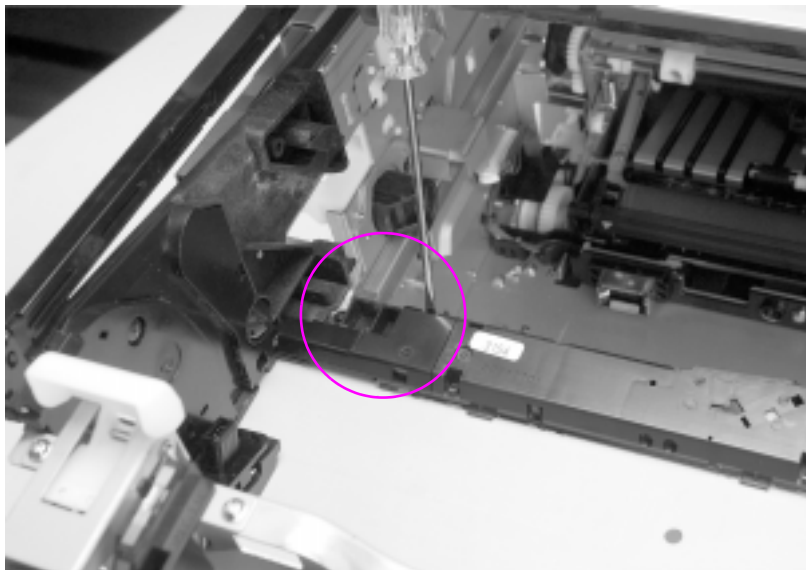

Figure 6-23 Densitometer removal and replacement (2 of 2)
- 4 Remove the plastic cover as shown in Figure 6-23.